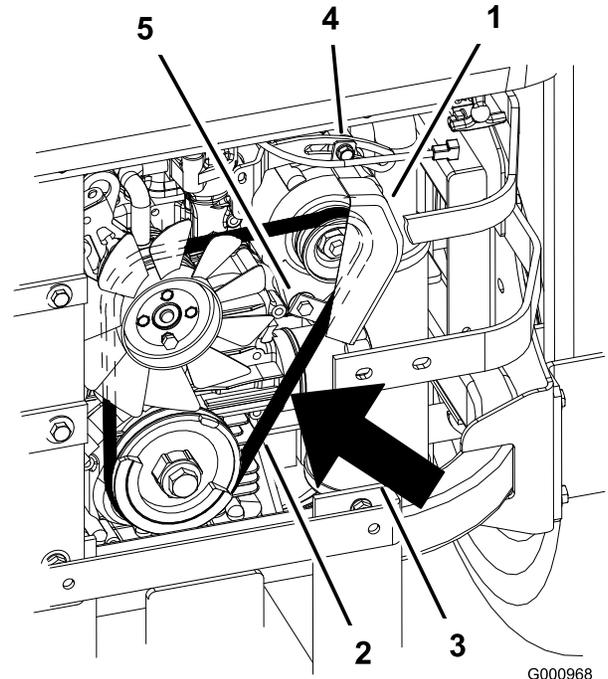

Figure 69
5. If the deflection is correct, tighten the bottom and upper bolt (Figure 69).
2. Adjust the alternator to the outside until there is 7 to 9 mm (1/4 to 11/32 inch) deflection in the belt between the engine and the alternator pulleys with 10 kgf (22.1 lb of force) (Figure 69).